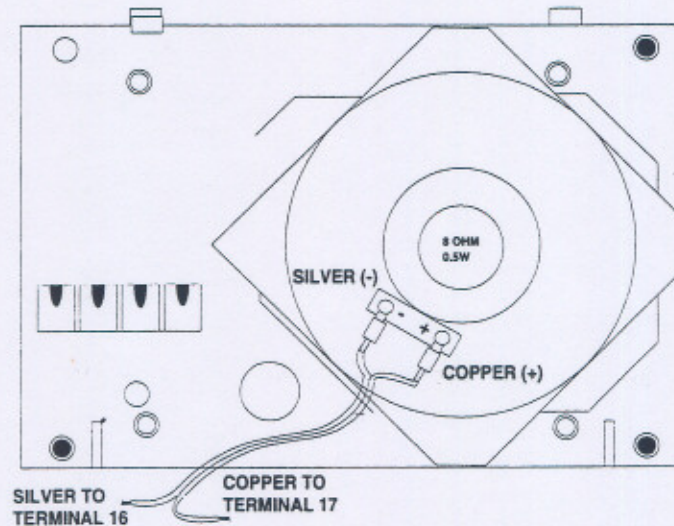

Figure 2.15 Speaker Wiring Connections
2. Connect the speaker wire (included) to the Interrogator Module terminals (see Figure 2.15).
3. Connect the fast-on speaker wire ends to the speaker on the speaker plate (see Figure 2.15).